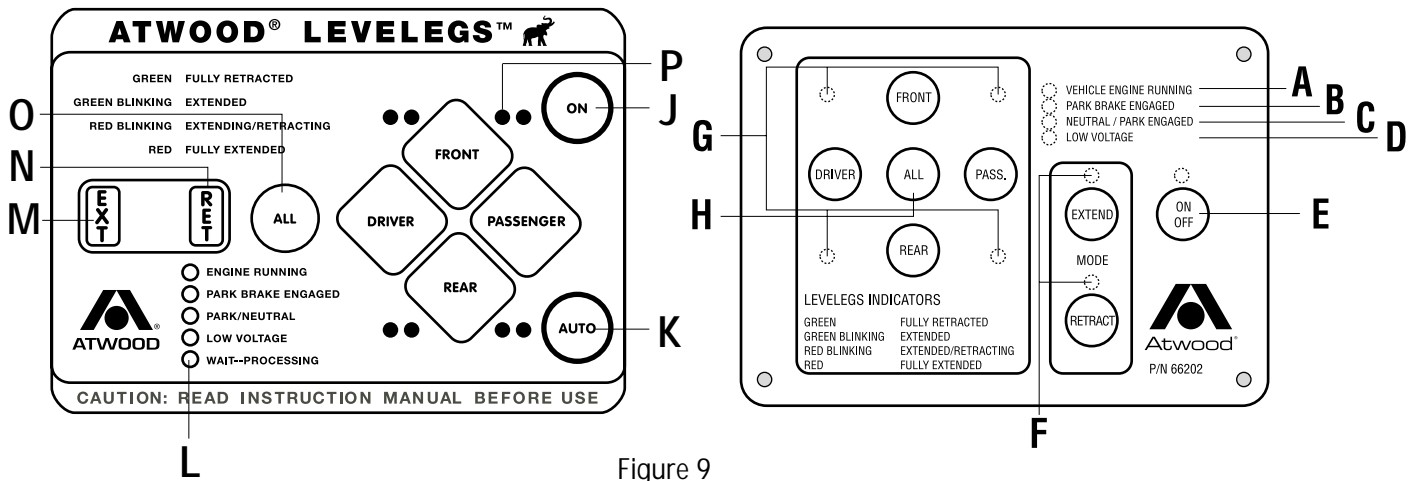

Figure 9
- **TO MAXIMIZE AVAILABLE LEVELER STROKE** During the initial activation of a pair of levelers following the ALL extend activation, for every six (6) seconds the first pair of levelers extend, the opposite pair of levelers will retract for two (2) seconds. This process will repeat for the first 60 continuous seconds of extension of first pair of levelers.
- b. Then press the ON (FIG 9-J) switch one time, to turn controls off.
- c. Press the EXT switch (FIG 9-M) five (5) times.
- d. Press the RET switch (FIG 9-N) five (5) times. All control panel lights will blink on and off.
- e. Press the ALL switch (FIG 9-O) three (3) times. All control panel lights turn off.
- f. Turn controls on. Do an ALL retract (FIG 9-O & 9-N).
3. When complete, press the ON switch (FIG 9-J) to turn off the control pad.